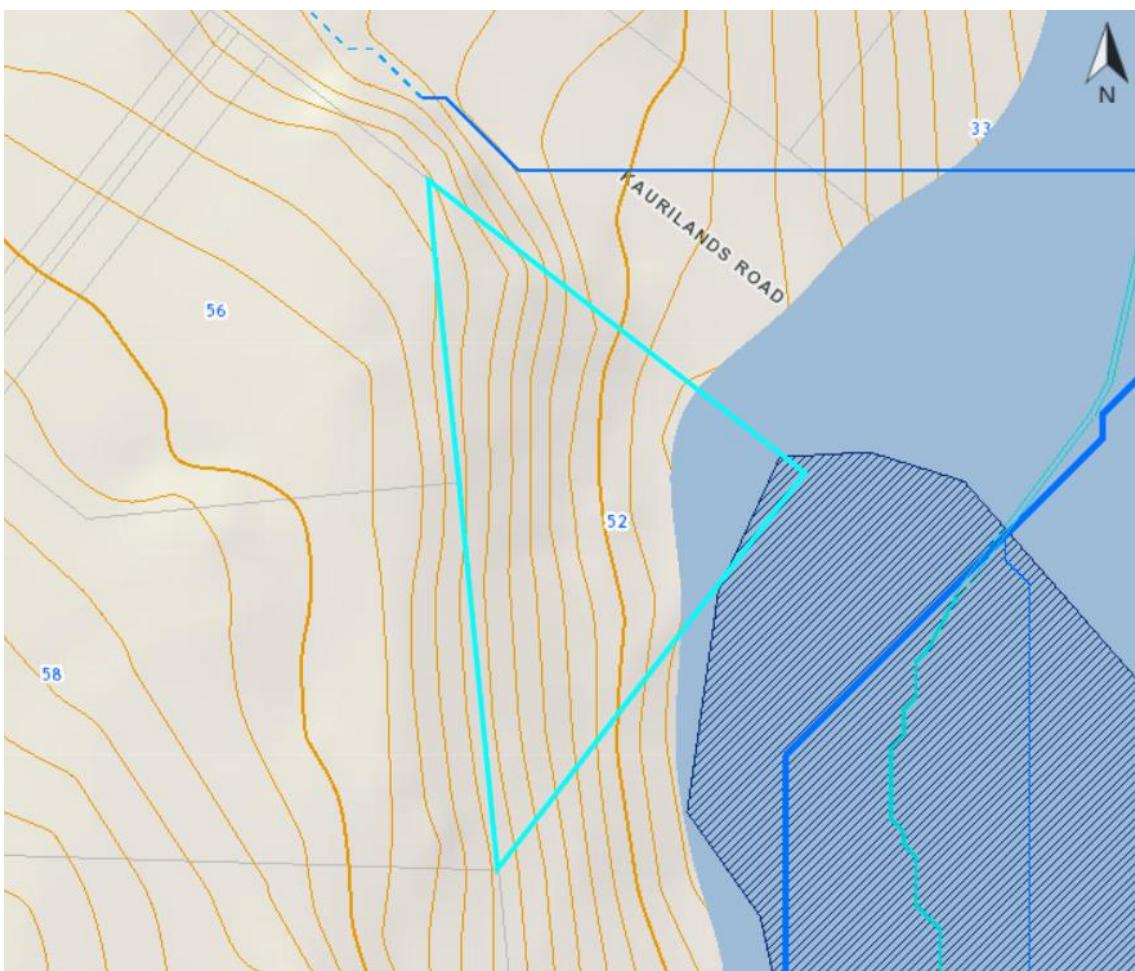

Figure 4: Flood and Overland Flow Path affecting Site
Site is potentially affected by 100-year floodplain associated with an overland flow path (OLFP) as shown in figure 4 below. A flood report (dated 24/02/2021) was prepared by Land Development & Civil to address flooding issues related to site. In this report we have included a flood layout plan as well as a long section to illustrate the effects a 100yr event will potentially have on the site accessway. Refer to drawings 11 and 12 included in Appendix 4 for more details.
- A 225mm dia PVC SN16 public line connecting the existing stormwater manhole (EX SWMH01) located within vehicle crossing of 52 Kaurilands Road as shown in Figure 4 below.
- A 150mm dia PVC SN16 public line extending from the proposed 225mm dia line within the road reserve as illustrated in Figure 4 below.